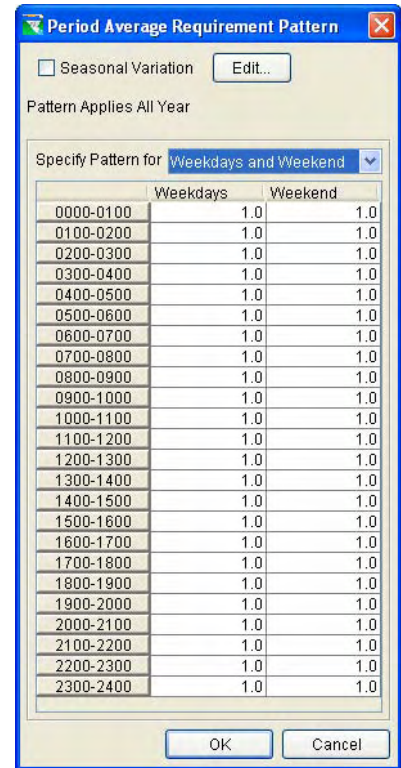

Figure 11.79 Period Average Requirement Pattern for Weekdays and Weekends
2. The **Weekdays and Weekend** option (Figure 11.79) allows you to specify different release requirement pattern for weekdays (Monday through Friday) than for weekend days (Saturday and Sunday). Again, each hour of the day can be given a multiplier. Refer to Sections 11.6.3 and 11.6.4 for more details on **Hour of Day** and **Day of Week** multipliers.